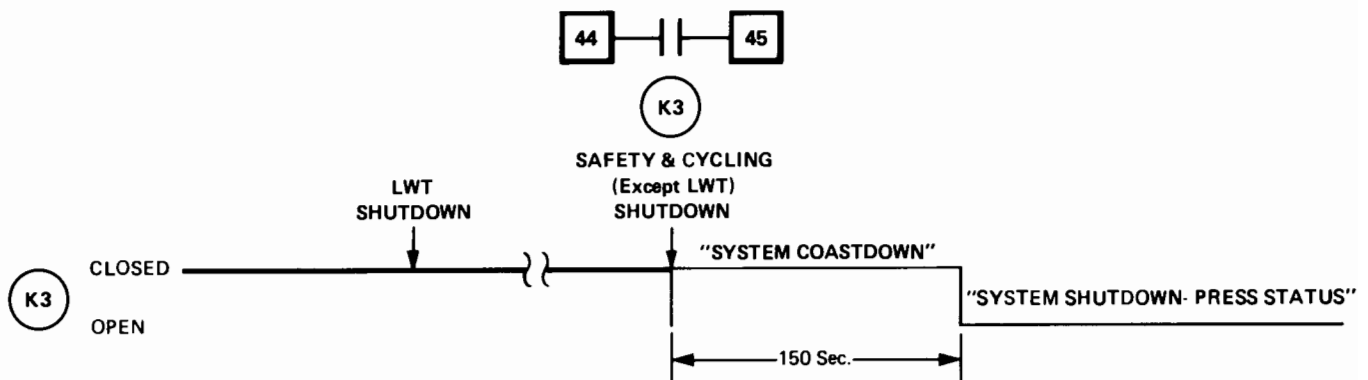

FIG. 21 — CHILLED WATER PUMP CONTACTS — CYCLING AND SAFETY SHUTDOWNS PROGRAM JUMPER (J54) INSTALLED ON MICRO BOARD
**JUMPER INSTALLED** (as shipped from factory) (Fig. 21).